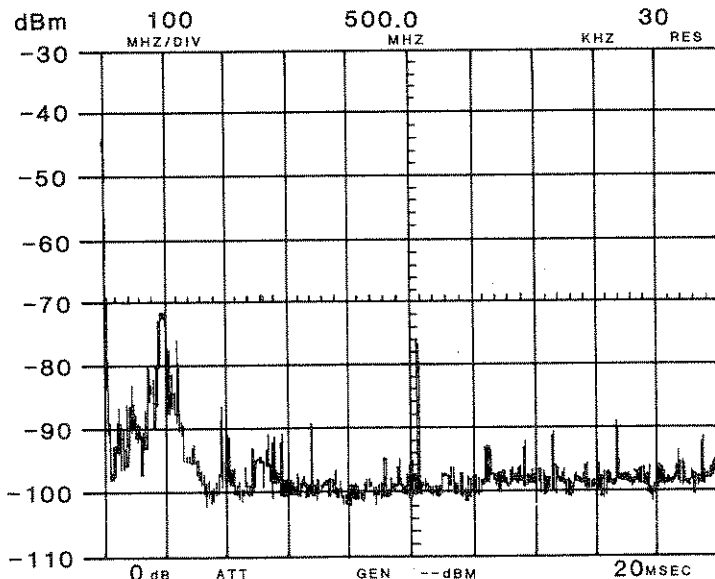

Figure 7-6 Initial Background or Ambient Signals
1. Turn on the A-7550 with the UUT turned off. Set it to a Center Frequency of 500 MHz and a Scan Width of 100 MHz/Div (Press "RF" "ENTER"). See Figure 7-6. This allows you to observe the full spectrum of signals.